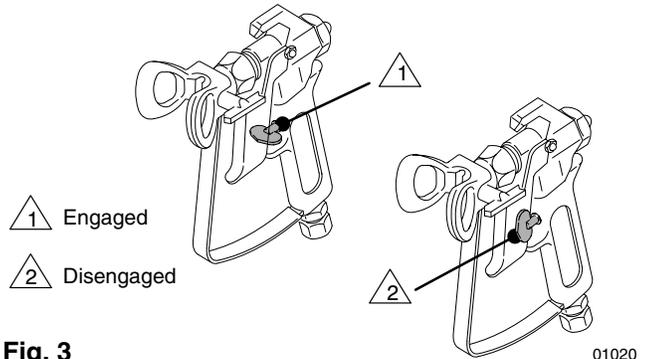

Fig. 3
When engaged, the gun safety latch prevents the gun from accidental triggering. See Fig. 3.
3. **Put the suction hose or tube (M) into the paint.** If you are pumping from a 1 gallon (5 liter) pail, push the drain hose (N) down below the top of the pail to avoid splashing paint when the drain valve is opened.
4. **Turn the pressure knob (B) to the minimum setting.**
5. **Disengage the gun safety latch.** See Fig. 3, page 7.